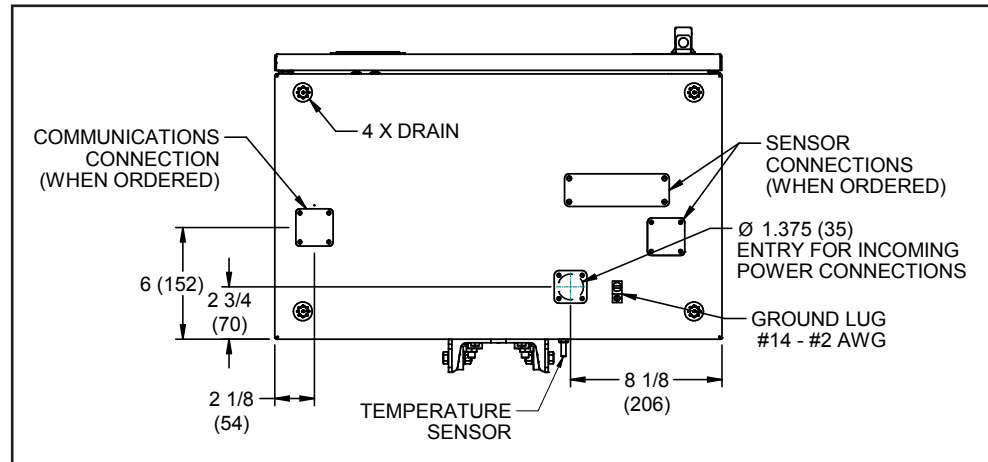

Figure 12. The bottom view of switch operator showing the ground lug, dimensions are inches (mm).
**STEP 8.** Ground the enclosure. Use the ground lug that is located on the bottom of the switch operator enclosure (see Figure 12) to ground the enclosure. The ground lug will accommodate up to #2 copper or aluminum, solid or stranded wire.
- (a) Locate the conduit hole that accepts a 1-inch (25-mm) conduit adapter on the bottom of the floor of the switch operator enclosure. See Figure 12.